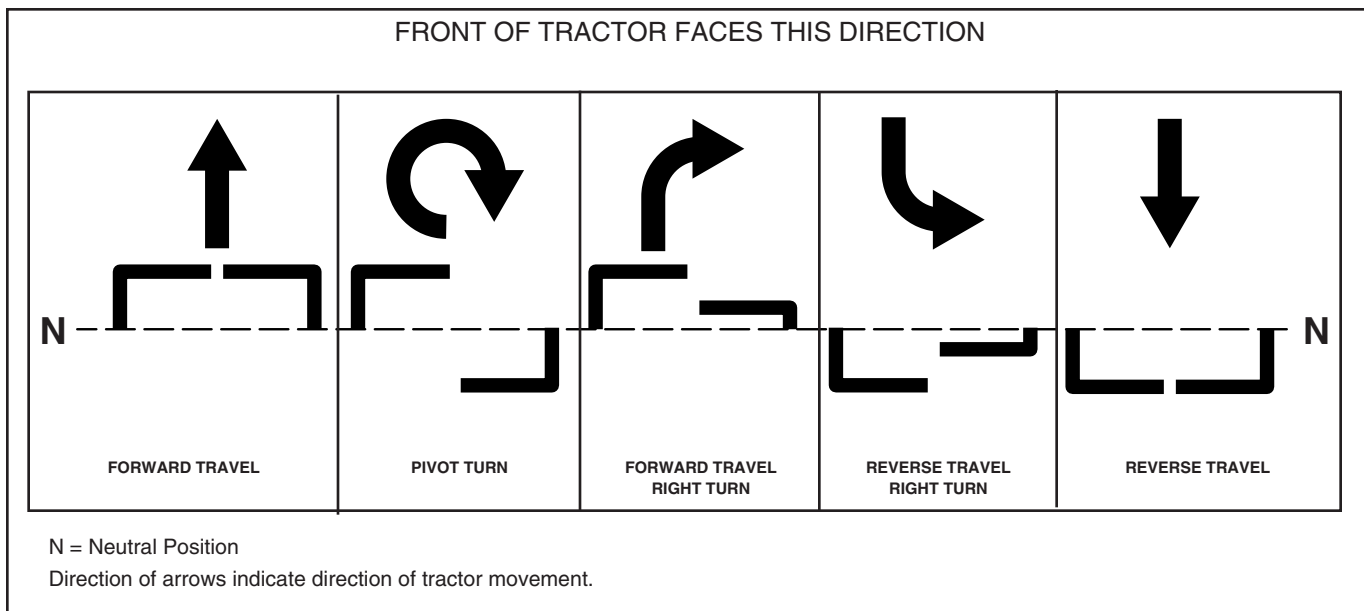

Figure 3-10
- To go forward, push control levers forward an equal distance (Fig. 3-10).
- To go in reverse, pull control levers rearward an equal distance (Fig. 3-10).
To turn left, move the right control lever farther forward from neutral than the left control lever. (Fig. 3-10)
To turn right, move the left control lever farther forward from neutral than the right control lever. (Fig. 3-10)
To pivot turn, move one control lever forward and the other control lever back of neutral. This will allow the drive wheels to counter-rotate. (Fig. 3-10)